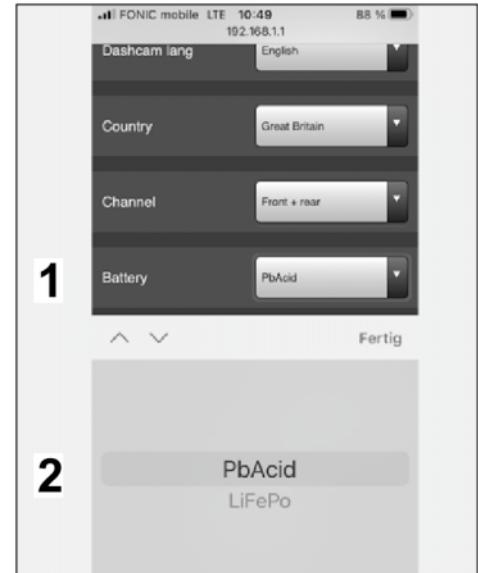

Figure 23
5.3.4 Select the battery type (⇒ *Figure 23*)